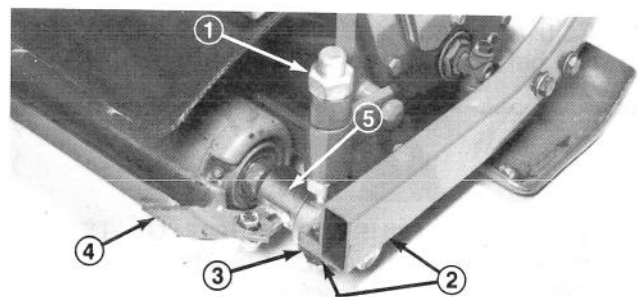

Figure 61
1. Remove top taper nut from each rod end (Fig. 61).
3. Remove rod ends and roller extension shafts from both ends of roller (Fig. 61).